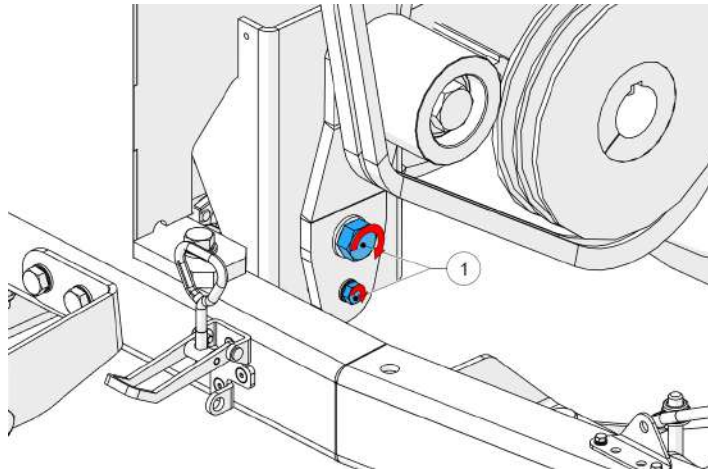

Figure 69 - Loosen main tension bolt
- a. Using a suitable tool, loosen the main tension bolt (1, Figure 69).